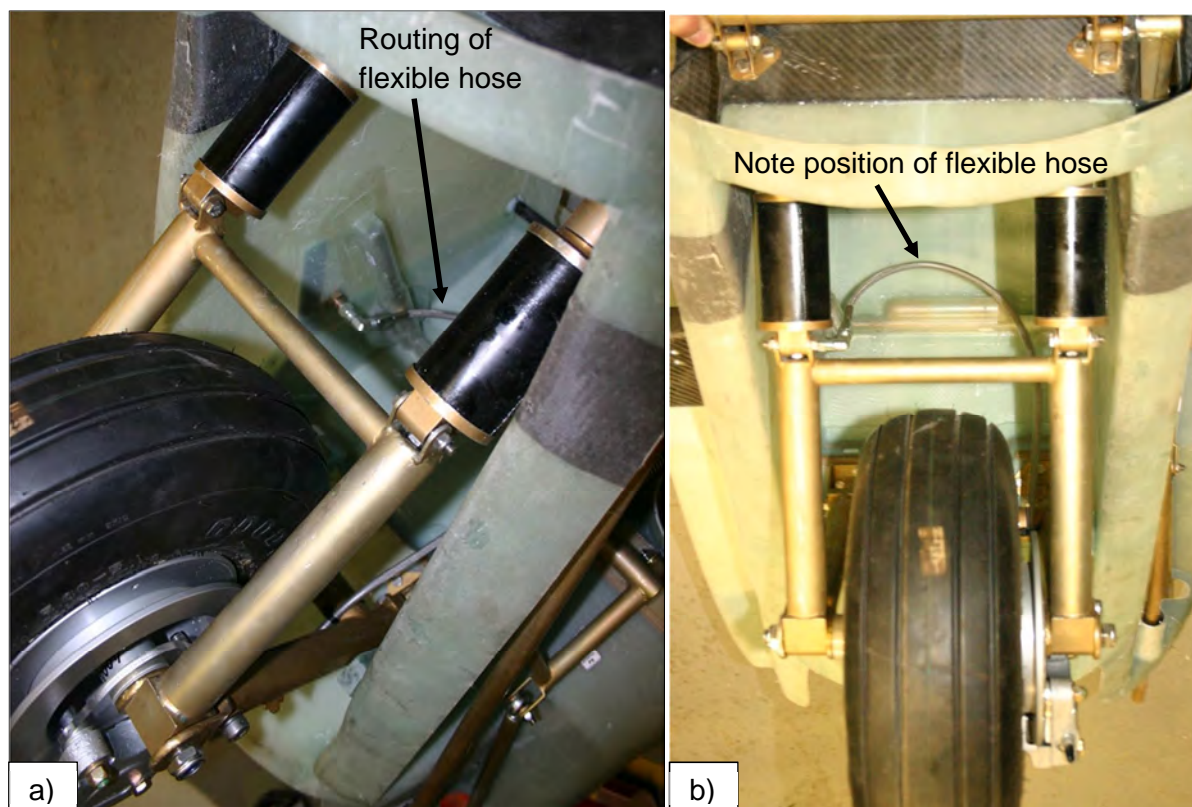

Figure 5: a) Main gear from rear below extended. b) Main gear from rear extended.
10. With the landing extended, route the high pressure brake flexible hose (5.3.04 Brake hose 7mm: KN 600) from the inner elbow (5.3.07), upward in the wheel box, across the landing gear arms, then down toward the brake caliper, as shown in the figures below. Leave sufficient clearance to allow the flexible hose (5.3.04) to rotate with the landing gear arms without touching the wheel box or the tyre, see Figure 4 and Figure 5.